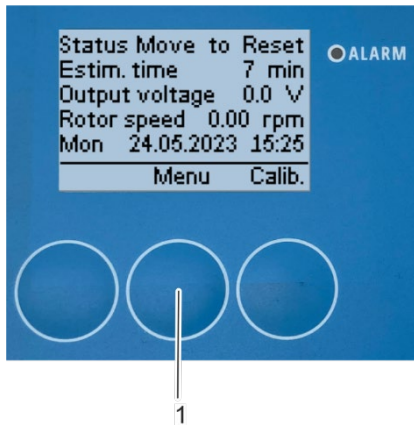
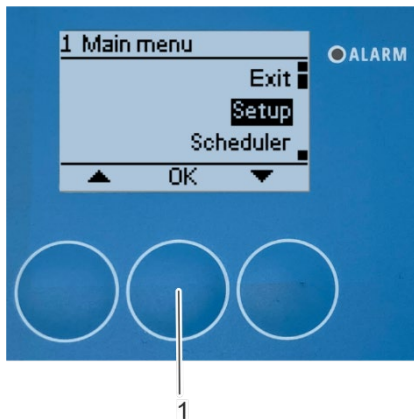

Fig. 120: Open main menu
Fig. 121: Select submenu "Setup"
1. Press *[Menu]* (Fig. 120/1) to open the "1 Main menu" menu (Fig. 121).
⇒ The "1 Main menu" menu appears on the display (Fig. 121).
2. Select the "Setup" submenu and confirm with *[OK]* (Fig. 121/1).